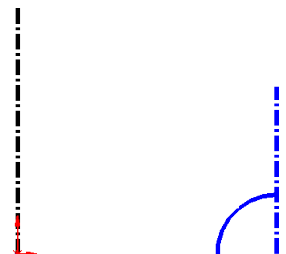

Fig. 4
Step 7. Click **Centerpoint Arc**  (S) in the **Arc flyout**  on the Sketch toolbar.
Step 8. Sketch centerpoint arc at bottom endpoint of second centerline. Click to place the first endpoint above on centerline, then swing arc to left. Click to place the second endpoint below centerpoint, **Fig. 4**.